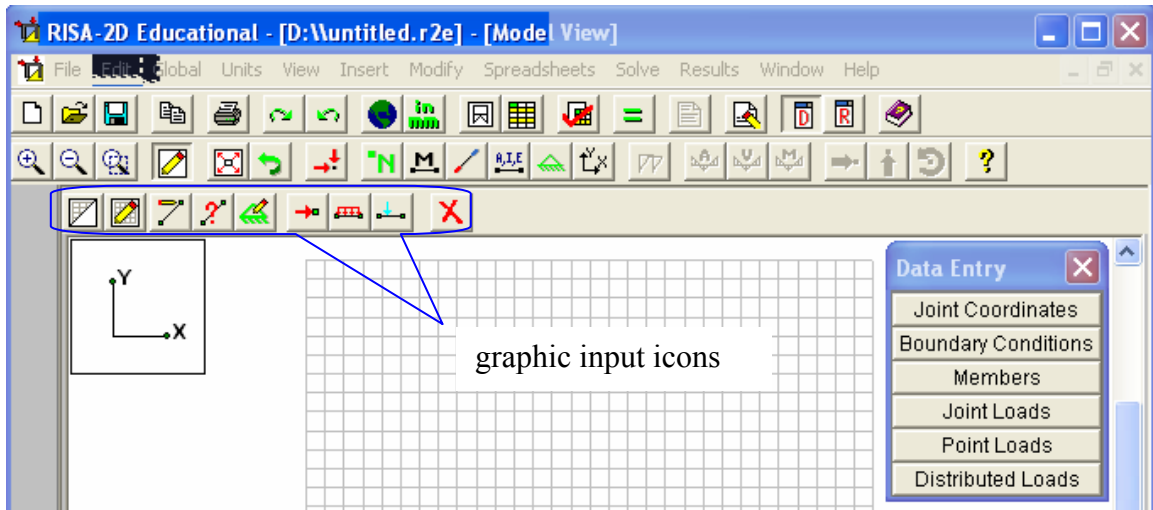

Figure 16
(14) Note that creating the model and specifying loading as described in step (6) through step (11) can also be performed graphically. Figure 16 shows the icons that can be used for this purpose. For example, clicking the third icon () allows you to specify both the joints and members. The support conditions can be specified by clicking , and the loadings can be specified by clicking either one of   .